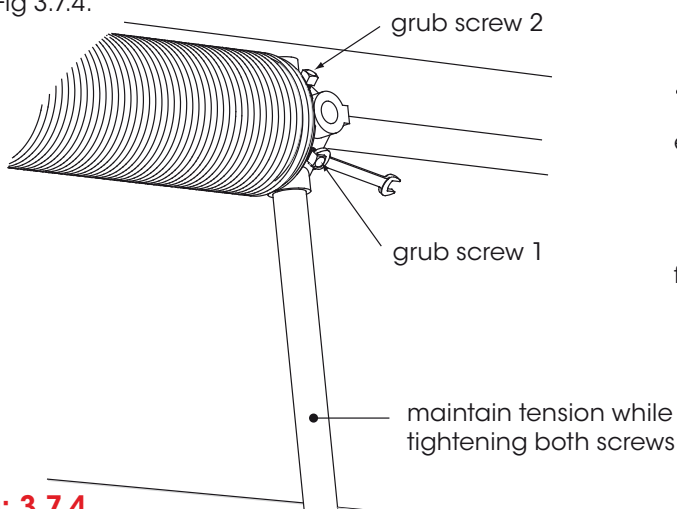

Fig: 3.7.4
- Maintain firm tension on the winding bar, while using a spanner to tighten the two (2) grub screws. Fig 3.7.4.